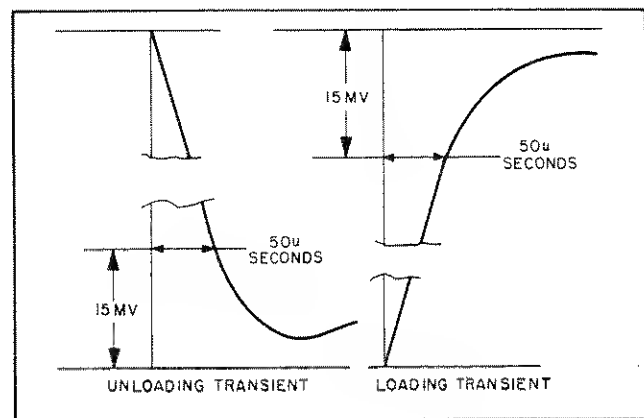

Figure 5-9. Transient Response, Waveforms
- Adjust 25K potentiometer until a stable display is obtained on oscilloscope. Waveform should be within the tolerances shown in Figure 5-9 (output should return to within 15mV of original value in less than 50 microseconds).